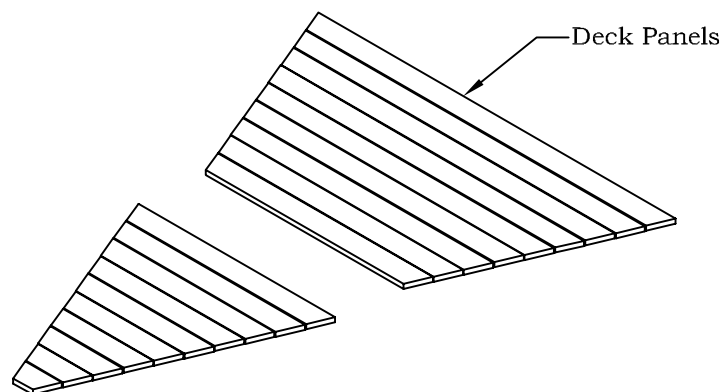
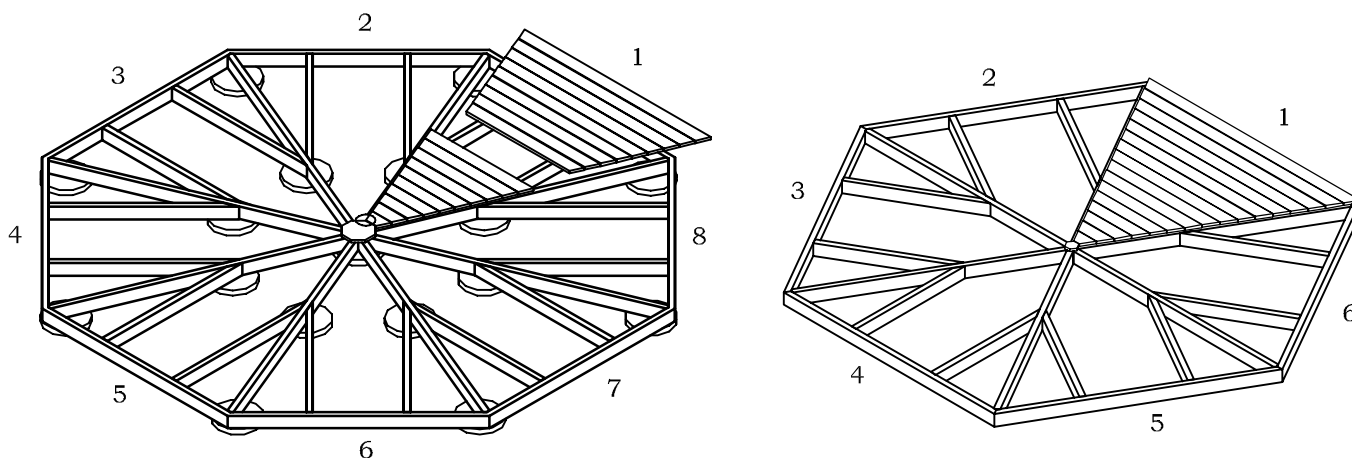

FIGURE S5
FIGURE S6
- There are 2 deck panels per pie section as shown in Figure S5. each is numbered and must be installed as per Figure S6.